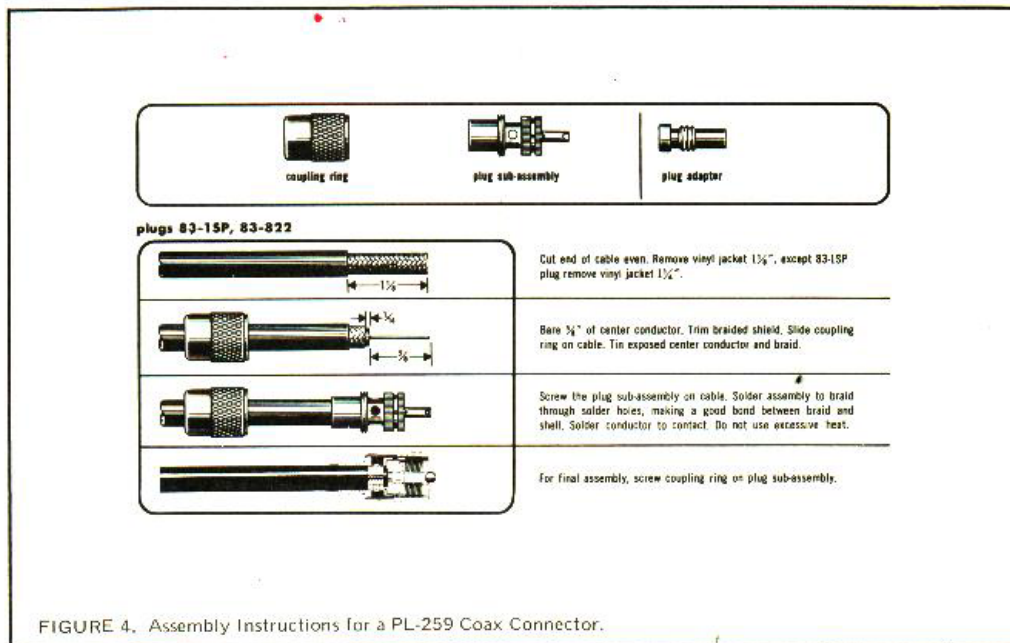

FIGURE 4. Assembly Instructions for a PL-259 Coax Connector.
**ANTENNA** — Use RG8/U coaxial cable, or its equivalent, to connect the selected output of the 6N2 into the preferred antenna relay system. Two PL-259 coax connectors are included in the accessory kit for making up the cables as shown in Figure 4. The connectors mate with 6 METER OUT and the 2 METER OUT jacks on the rear panel of the 6N2.